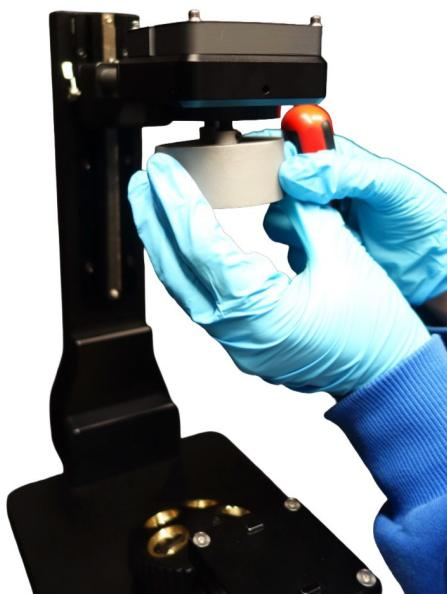

Figure 8: Fitment of the transillumination source onto the transillumination pillar and arm.
4. Locate the mounting posts on the transillumination arm (OF02) and gently press OF03 into place. Avoid pressing directly on the LEDs (Figure 8).